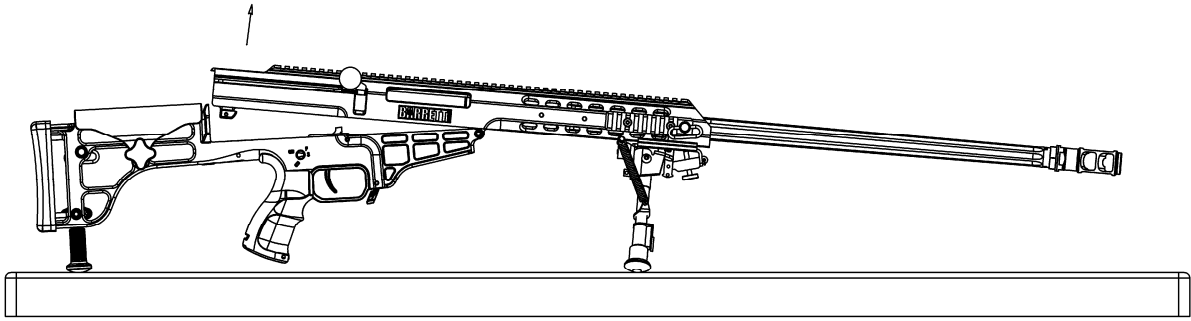

Figure 10, Step B.
4. Separate the receiver and the lower receiver as shown in Figure 10, Step B.